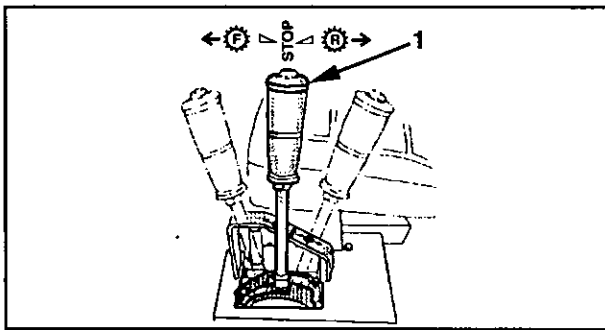

Figure 3-5 Propulsion Control Lever
The propulsion control lever (1, Figure 3-5) is used to select the compactor's direction and travel speed. It also controls service braking. The control has three (3) positions: Forward, STOP, and Reverse, with variable speed ranges in either direction
The propulsion control lever must be in the "STOP" position (Figure 3-5) before the engine will start. The GREEN 'N = NEUTRAL' Warning Indicator Light (13, Figure 3-4) will illuminate only when the propulsion control lever is in the "STOP" position.